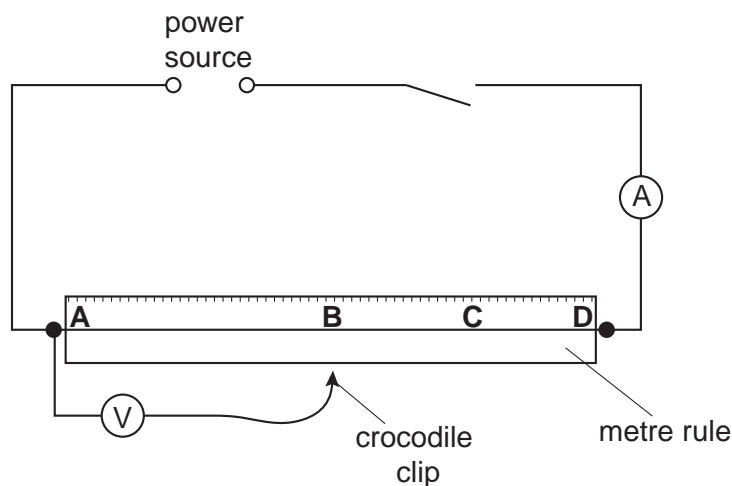

Fig. 2.1
- (f) Sufficient connecting leads to set up the circuit shown in Fig. 2.1.
1. The circuit is to be set up for the candidates as shown in Fig. 2.1.
3. Labels are to be attached to the metre rule as shown in Fig. 2.1. **A** is at the zero end of the rule, **B** at the 50.0 cm mark, **C** at the 75.0 cm mark and **D** at the 100.0 cm mark. The labels should not obscure the scale of the metre rule.
Reconnect the circuit as shown in Fig. 2.1. Check that the output of the power source is close to its original value.